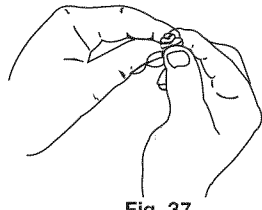

Fig. 37
- Squeeze the filter to spread and remove excess oil (Fig. 37).